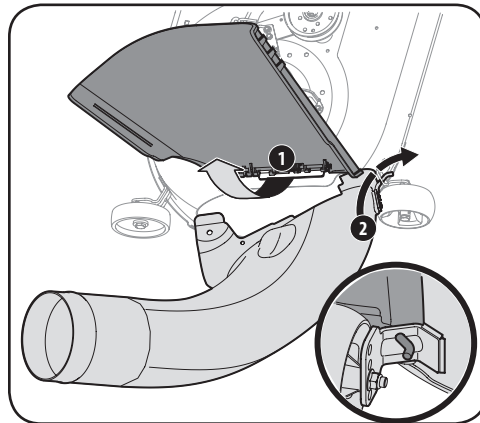

Figure 4-18
- With the tractor's discharge chute raised up and held open (1), install the chute elbow by placing the chute elbow mounting rod into the hole provided in either your deck wheel bracket or chute mounting tab (2), as shown in Figure 4-18.